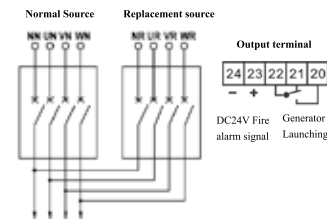

Fig.8 Four Poles ATNSX with B type Controller
- ⚡: For ATNSX with B type controller, a group of potential-free Contact (terminal 20,21,22) is provided to start generator, you can connect it into generator start circuit. A fire alarm signal input terminal (23,24) is also provided , when a DC24V fire alarm signal input into the terminal, the ATNSX will transfer to OFF position, and cut power supply of load. you can use these output signal according Fig.7-Fig.8